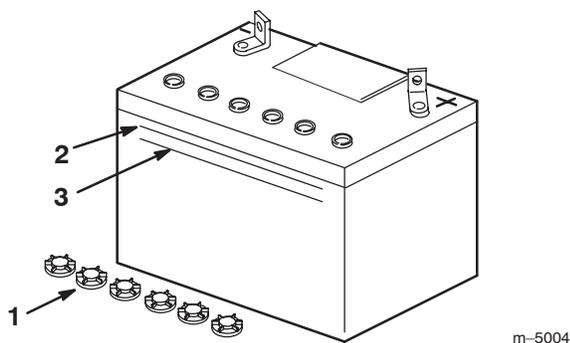

Figure 3
3. Remove the vent caps from the battery (Fig. 3).
4. Slowly pour electrolyte into each battery cell until the level is up to the **upper** line (Fig. 3) on the battery case.
5. Wait five to ten minutes after filling the battery cells. Add electrolyte, if necessary, until the electrolyte level is up to the **upper** line (Fig. 3) on the battery case.